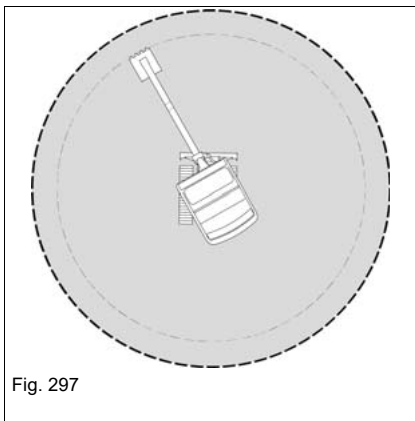

Fig. 297
- ▶ The boom must be straight towards the cab - see Fig. 297